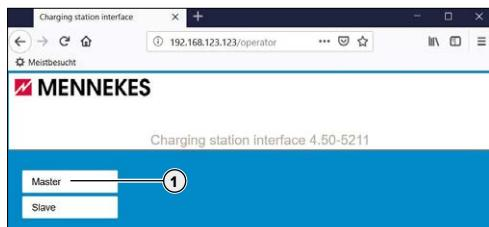

Fig. 21: Valgside: Master - slave
- ➔ "Fig. 21: Valgside: Master - slave"